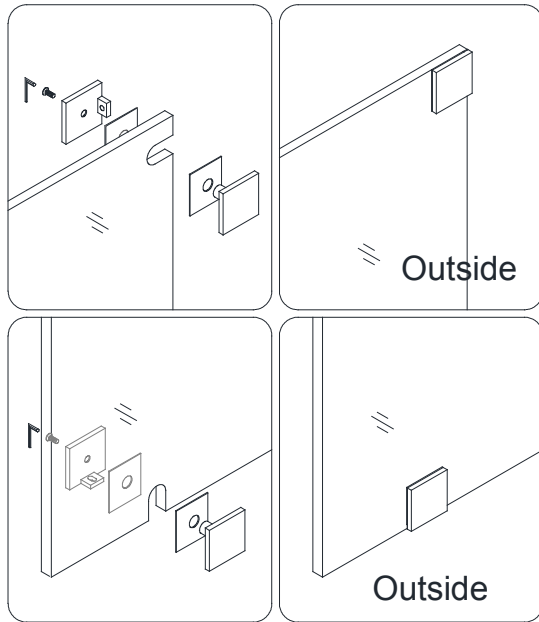

Fig 1
1. Attach the three **Wall Brackets (#19)** to the **Return Panel (#27)**. The bolt side of each **Wall Bracket (#19)** must face inside the shower. **(Fig 1)**